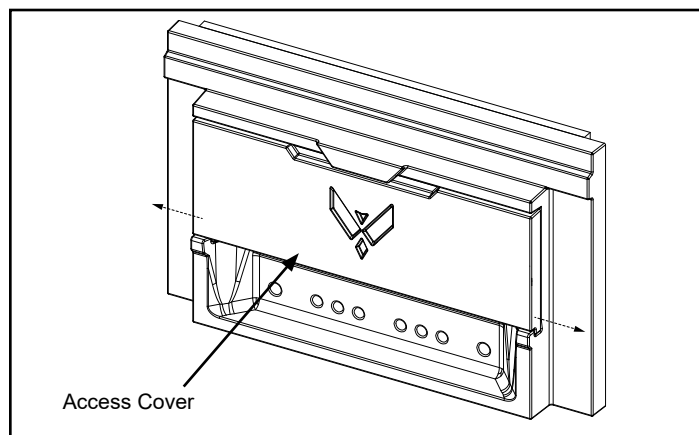

Figure 5.9 - Remove access cover.
1. Remove the access cover by gently sliding to the left or right then pulling out from the bottom edge, Figure 5.9.